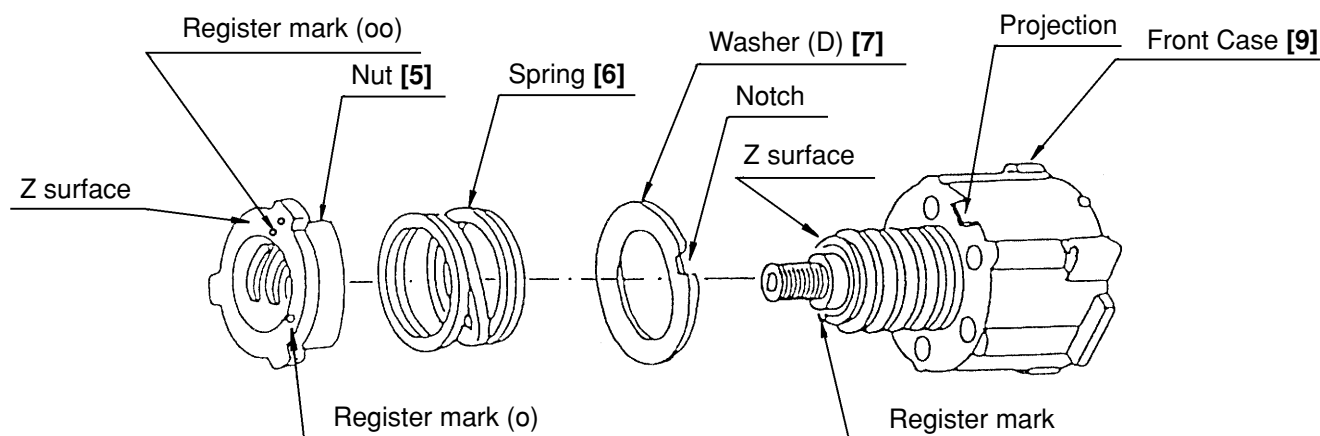

Fig. 7
- (a) Mount Washer (D) [7] and the Spring [6] to the Front Case [9]. (See Fig. 7.)